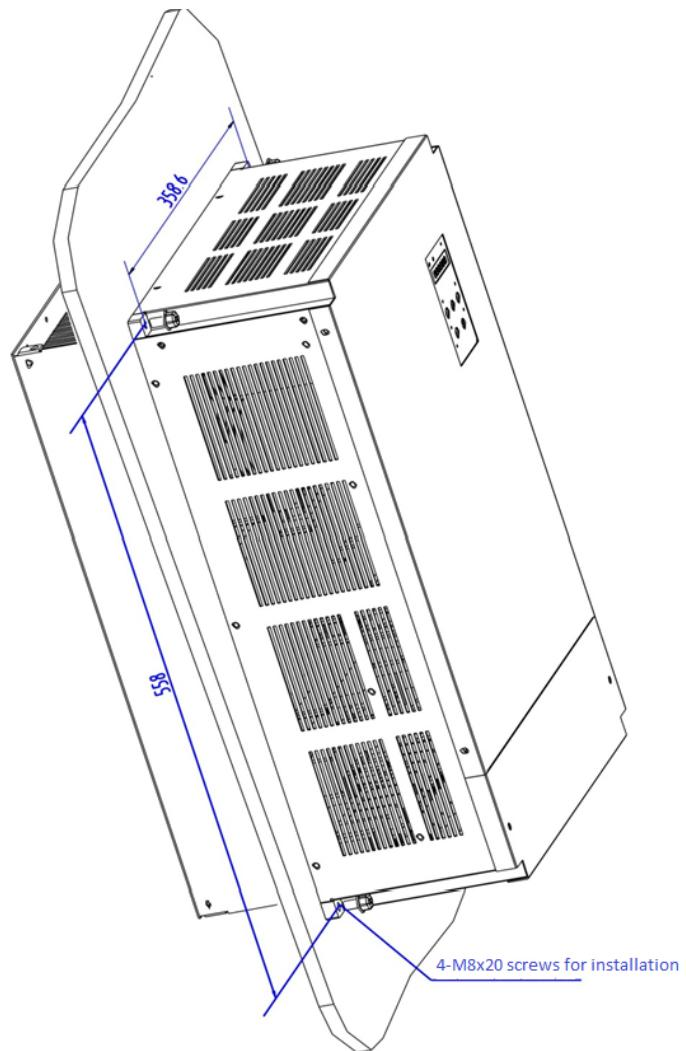

Figure 5.4.13 Wall-through mounting installation mode of HSV-180US-200, 300,
- Installation with heat dissipation externally placed, as shown in Figure 5.4.13.